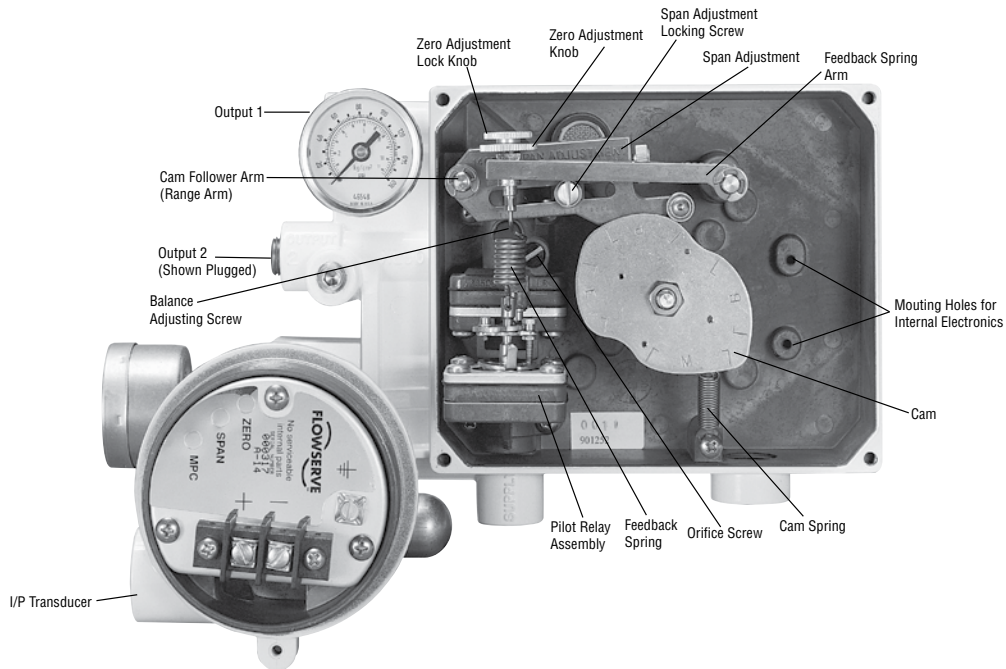

Figure 4: Positioner Adjustments
**For calibration, refer to Figure 4 and proceed as follows:**
7. Connect Cam return spring. See Figure 4.
4. Remove rubber cap over balance adjustment screw. (See Figure 4.)